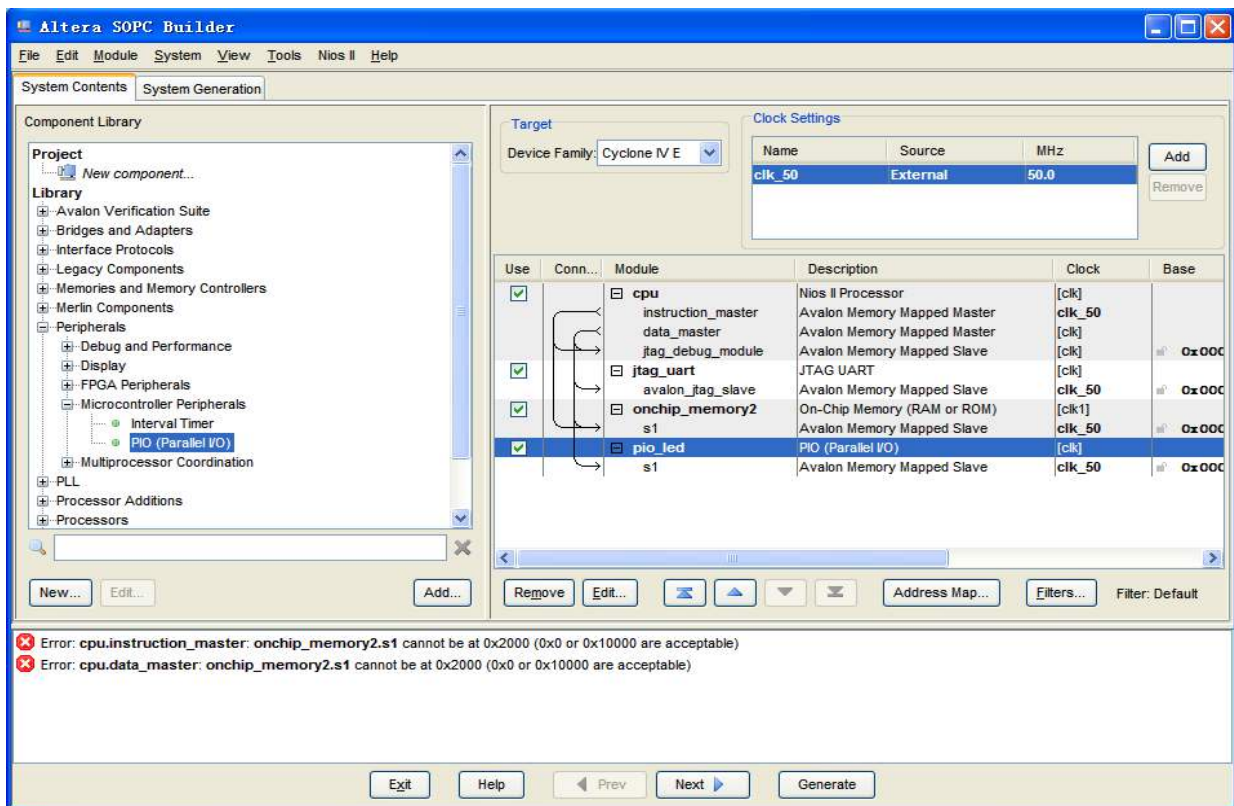

Figure 7-33 Rename PIO
21. Rename `pio_0` to `pio_led` as shown in Figure 7-33.